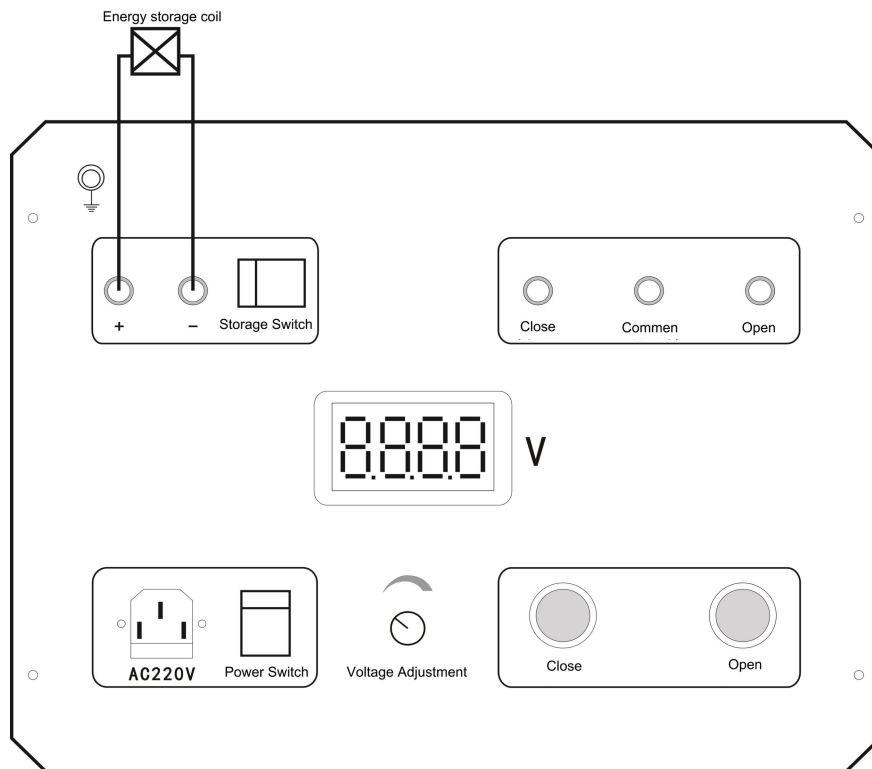

Figure 5
**v.** When used as high-voltage switching energy storage power supply, two test wires are connected to the red and black energy storage terminal of the machine at one end, and the corresponding energy storage terminal of the high-voltage switch at the other end. After wiring, the instrument turns on, adjusts the output voltage to the rated voltage of the high-voltage switching energy storage motor, and then turn on the energy storage switch. When the energy storage motor rotates and the energy storage is marked as another state, that is to say, the energy storage has been finished. Wiring is like the figure 5.